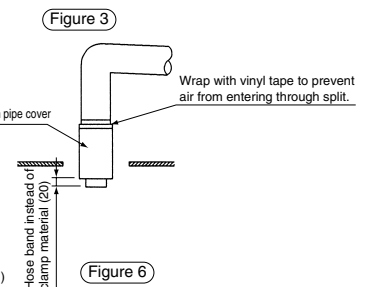

Figure 6
- (6) Insulate the drain hose using the attached insulation pipe cover (large) ⑦. (Figure 6)